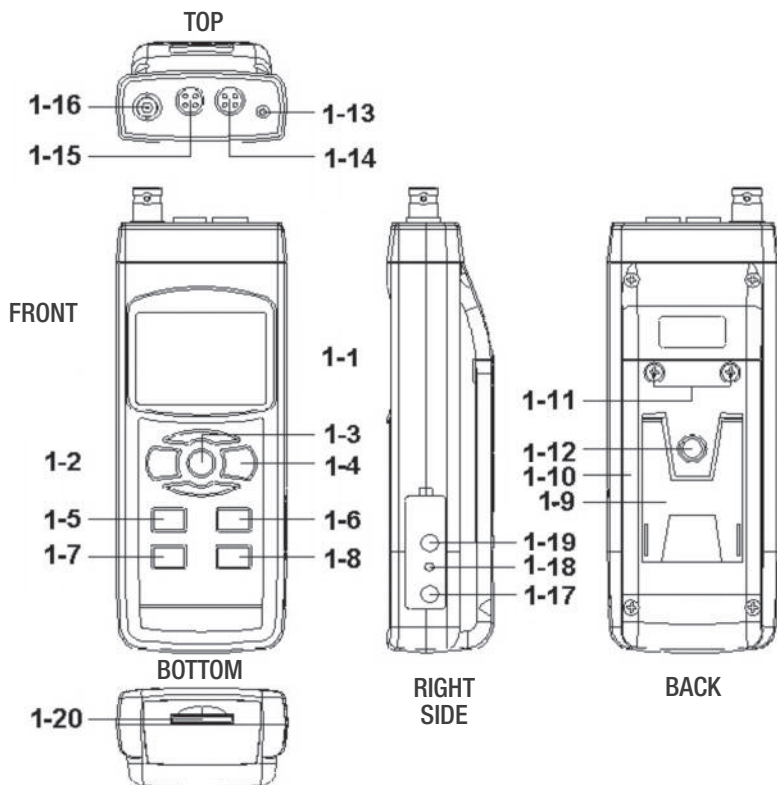

Fig. 1. The HHWT-SD1's controls and indicators and other physical features
Figure 1 shows all of the controls and indicators on the front, back, top, bottom and right side of the HHWT-SD1. Familiarize yourself with the positions and functions of these controls, indicators and connectors before moving on to the setup procedure.
1. Insert the plug of a pH electrode into the BNC socket at the top of the meter (callout 1-16 of Fig. 1).
- 2. Plug the probe into its dedicated socket** on the top of the meter (callout 1-15 of Fig. 1). Then power on the meter and push the ▼ button (which has the word “MODE” stenciled above it) until the display shows the term “Cd”.
To calibrate an oxygen probe, use the following procedure while referring to Figures 1 and 4.
- 1. Plug the probe plug into the DO probe socket** (callout 1-14 of Fig. 1) on the top of the meter.